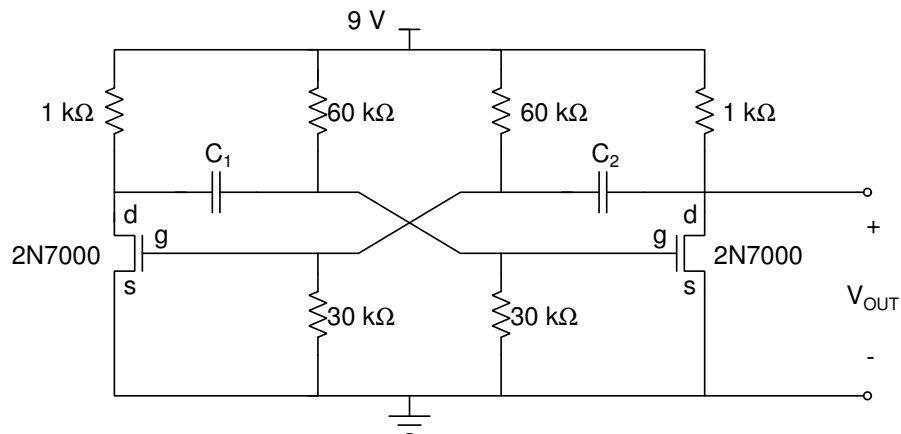

Figure 5: Astable multivibrator circuit.
8. The multivibrator circuit will be used to drive the boost-circuit you built and tested in Lab 8. Modify the design of the multivibrator to match the best frequency and duty cycle determined in Lab 8. This is best accomplished by keeping the resistor values constant and adjusting the capacitance values  $C_1$  and  $C_2$  shown in Figure 5. The values of the capacitors determine the frequency while the ratio of the capacitors determine the duty cycle. Use hand-calculations, verified by Micro-Cap simulations, to determine the values of  $C_1$  and  $C_2$  so that: